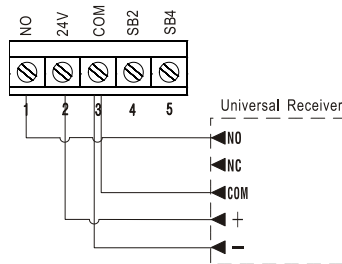

Fig. 14
- c. 24VDC universal receiver (Fig.14)